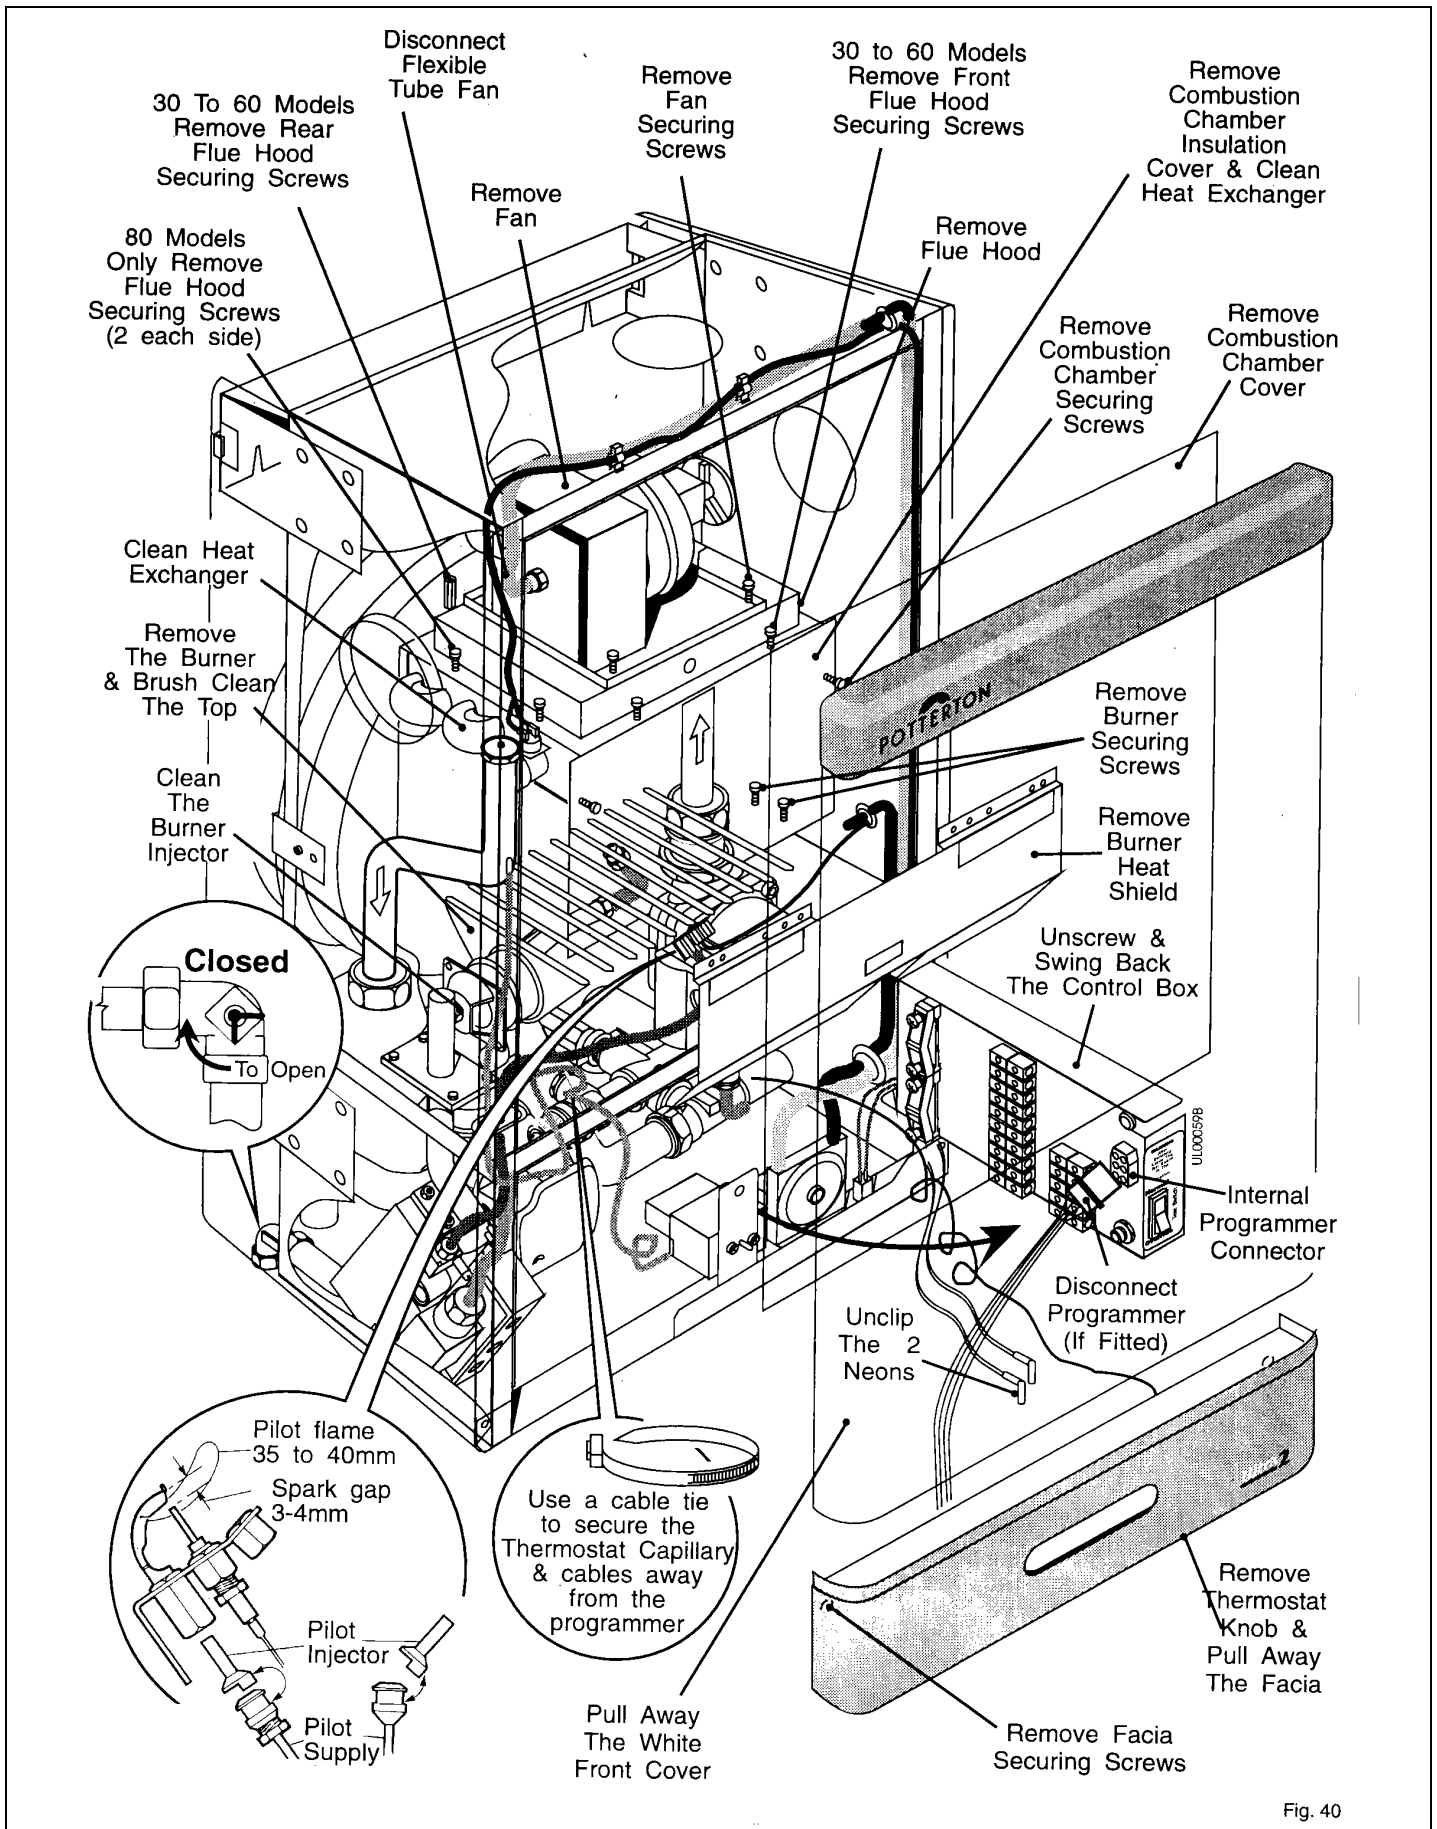

Fig. 40
13. Re-assemble in reverse order. Ensure the harness is routed through the cable ties as shown in Figs 40 / 41.